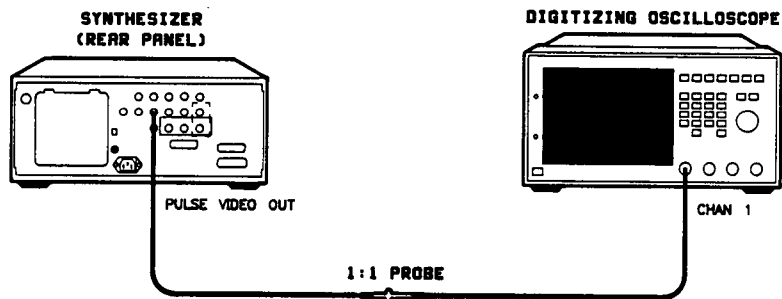

Figure 2-28. Pulse Accuracy Test Setup
1. Connect the equipment as shown in Figure 2-28 using a 1:1 probe. Preset all instruments and let them warm up for at least one hour.